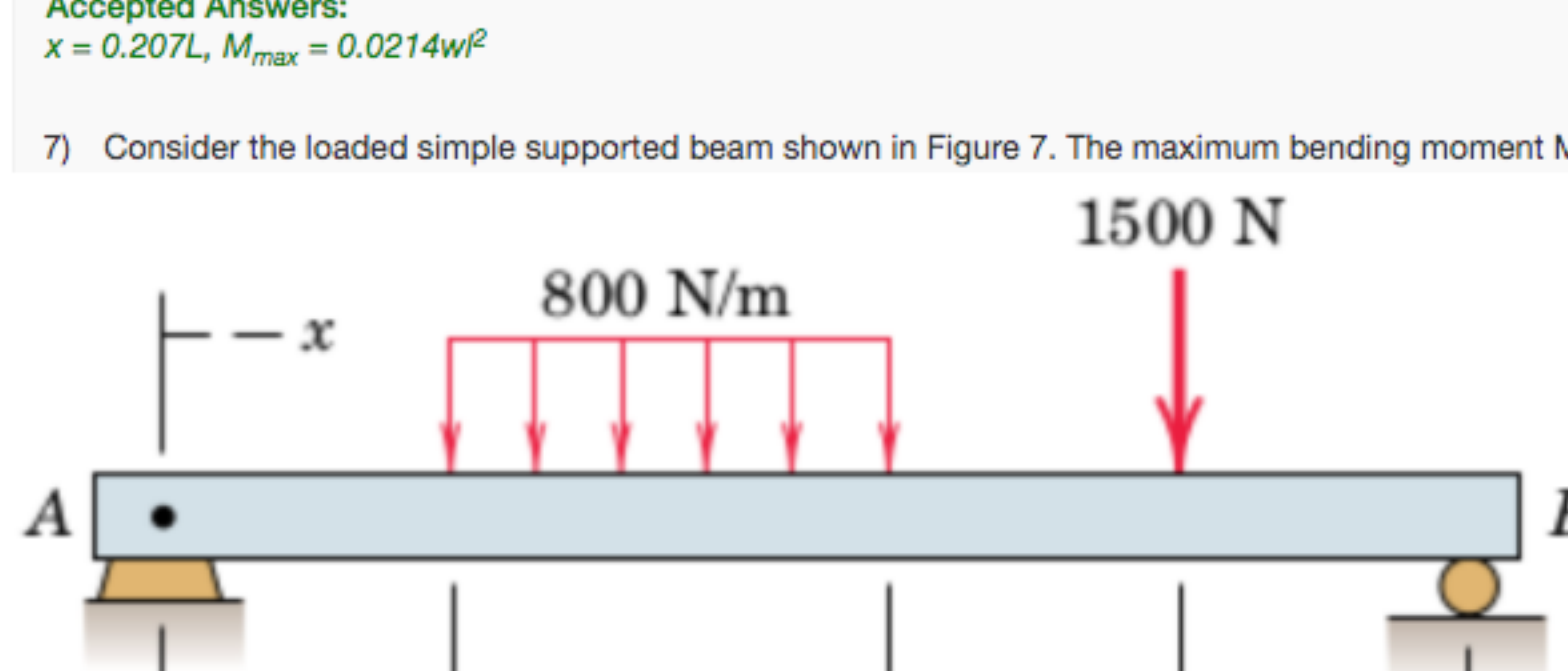

Figure 7: Figure for question No.7
7) Consider the loaded simple supported beam shown in Figure 7. The maximum bending moment M_{max} produced in the beam due to this loading is **1 point**